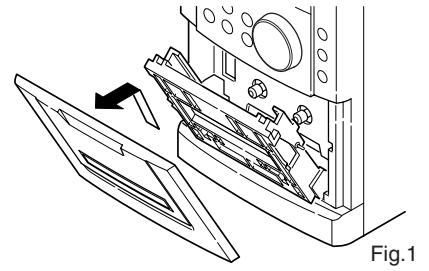

Fig.1
1. Remove the cover deck as Fig.1.